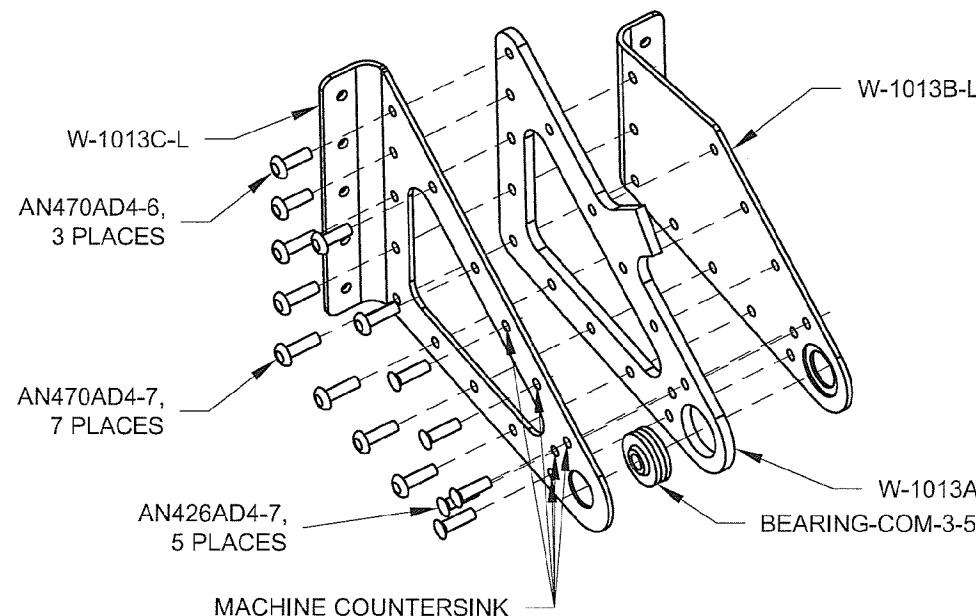

FIGURE 2: INBOARD AILERON BRACKET ASSEMBLY
Step 2: Cleco the W-1013A Aileron Hinge Bracket Spacer, W-1013B-L and W-1013C-L Aileron Hinge Bracket Sides together as shown in Figure 2. Final-Drill #30 all common attach holes. Machine countersink the aft holes as indicated in Figure 2 on the **outboard** face of the W-1013C-L Aileron Hinge Bracket Side for the head of an AN426AD4 rivet. See Section 5E for more information on countersinking. Repeat this process for the right inboard aileron bracket assembly.